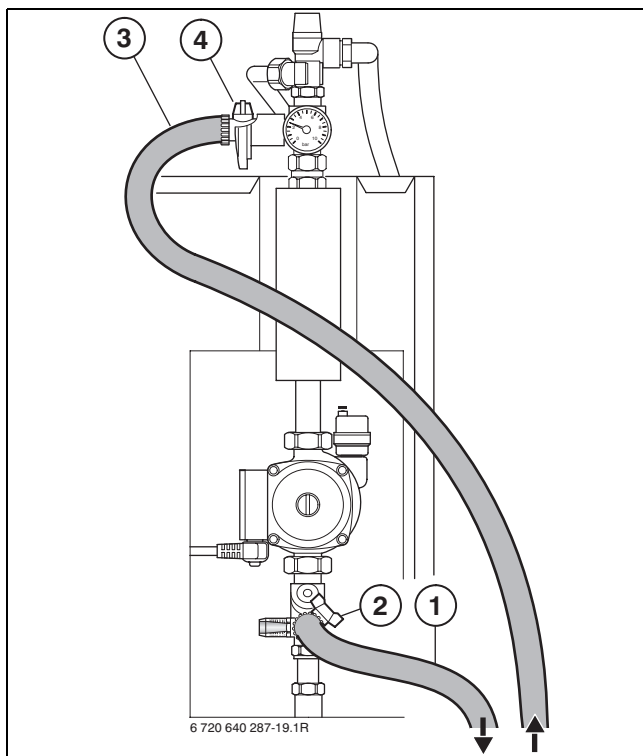

Fig. 15
- 4 Solar circuit pump (SP)
- ▶ Close the bottom shut-off valve (→ Fig. 15, [2], page 16).
- ▶ Close the top shut-off valve (→ Fig. 15, [4]) once the operating pressure has been reached.